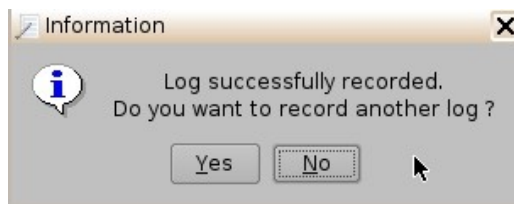

Figure 133: Information Window
- The following window will appear (Figure 133). Confirm whether or not to create another log (clicking No will take the user out of the Log Operator Maintenance application).